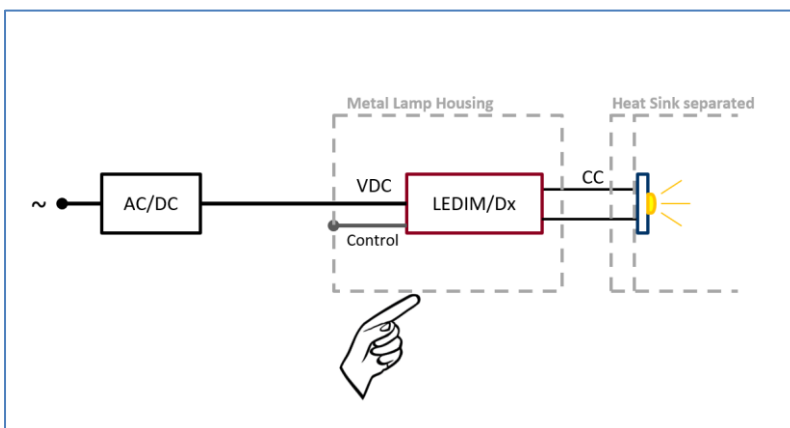

Figure 11: Less Critical Condition: Heat Sink not connected to lamp housing
- COBs or LED engines made of ceramic material are less critical in terms of parasitic capacity. So are cases, where the LED engine is electrically separated from the touch surface (see Figure 11).